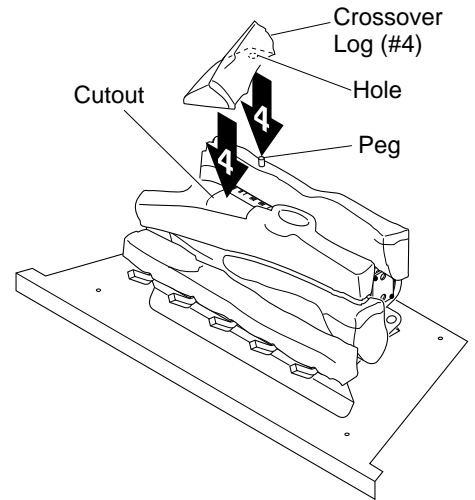

Figure 25 - Installing Crossover Log (#4)
4. Place the crossover log (#4) on the rear log and the middle log. Make sure the peg on the rear log is in the hole in the bottom of the crossover log. The crossover log should fit in the cutout of the middle log (see Figure 25).